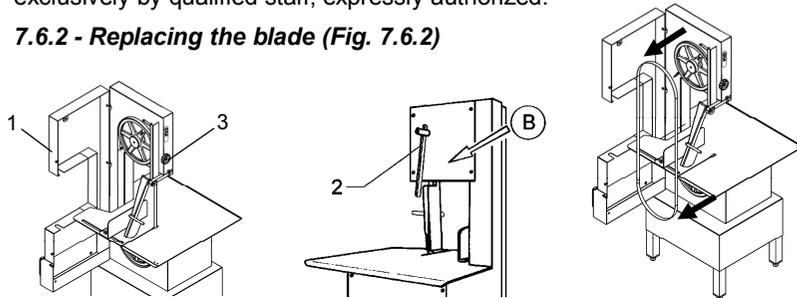

Fig. 7.6.2
7.6.2 - Replacing the blade (Fig. 7.6.2)
- Release knob "2" as indicated in fig. 7.6.2 arrow "B".